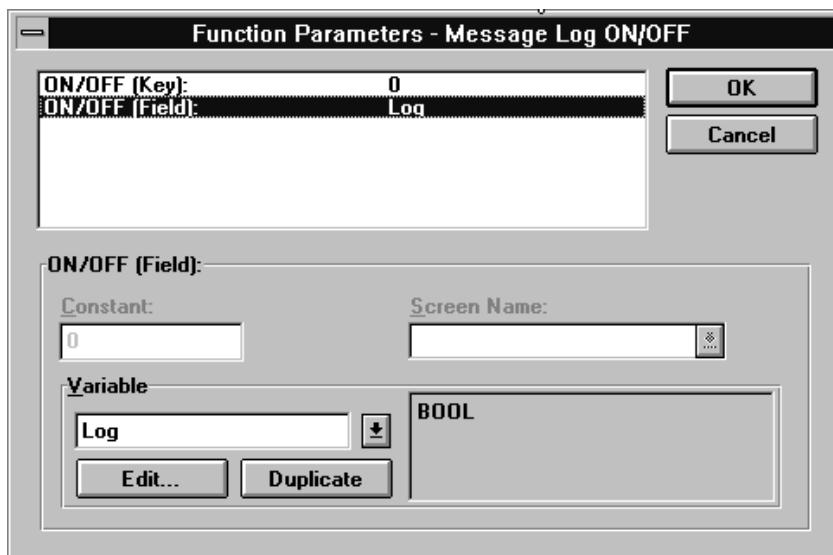

Figure 10-3 *Function Parameters* Dialog Box
6. Select the second parameter, *ON/OFF (Field)*. In the *Variable* field, enter the name Log. The Log variable is a type *BOOL* variable and is set to No PLC. Figure 10-3 shows the settings which have just been described.